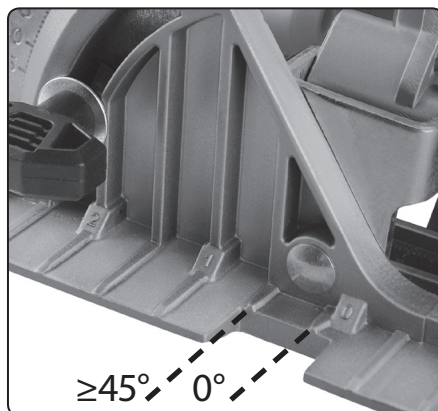

Fig. 7
4. Allow the saw to reach full speed and then gradually slide it to the drawn line of cut with the cutting side of the base plate according to the set slant angle of the cut for a perpendicular or slant cut (see fig. 7).